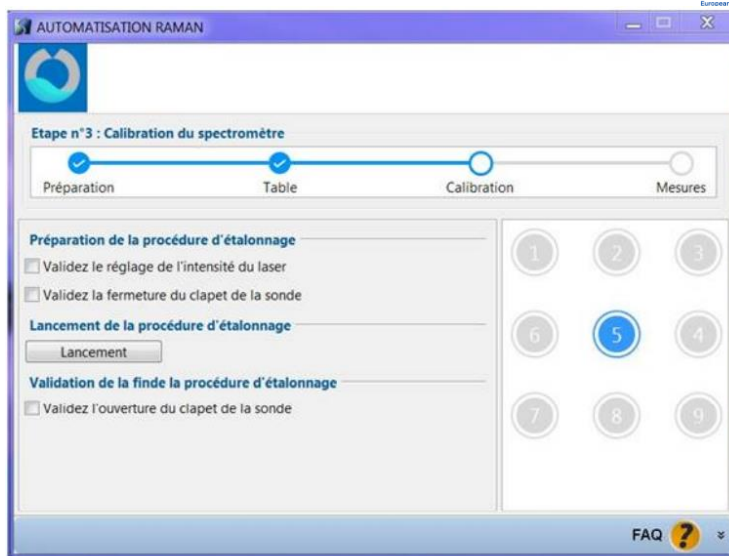

Figure 42. API software. Calibration
23. Close the exit of the laser by sliding the button on the fiber optic probe to prepare the measurements of the background. Then, click on the box next to "Confirm the closure of the probe shutter" (Validez la fermeture du clapet de la sonde) (Figure 42).
24. Press on the button "Launch" (Lancement) to launch the measurement of the background to calibrate the spectrometer. At the end of the procedure, a message will appear which confirms that the spectrometer calibration has been successfully completed (Figure 42).